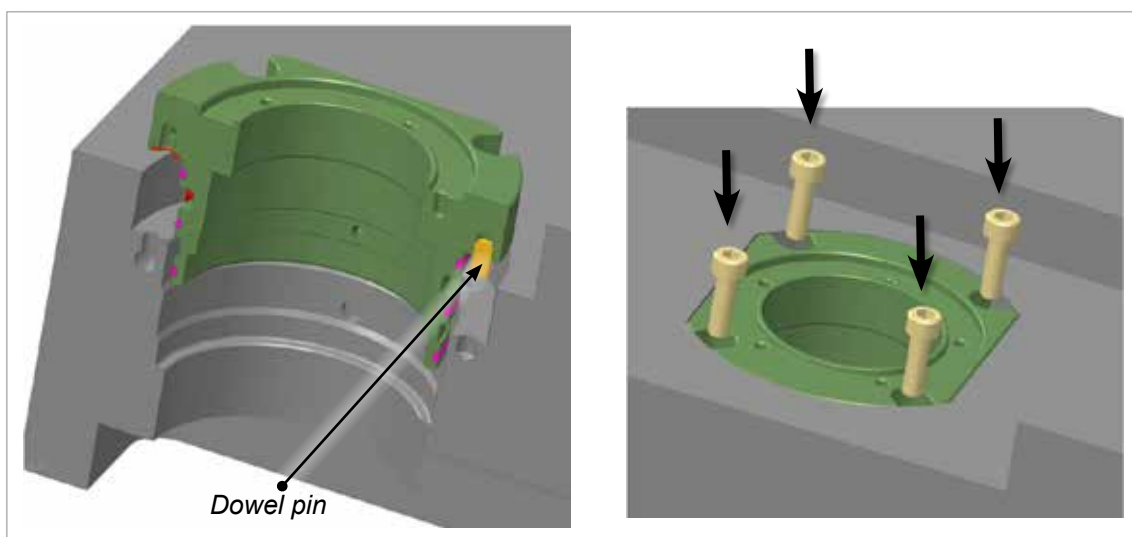

Figure 11-20 Attach outer body to manifold plate.
Ensure the outer body dowel pin is on the dowel hole side of manifold plate and the O-ring is in place on the outer body. See Figure 11-20.
1. Attach the outer body to the manifold plate using socket head cap screws. Torque to 15 Nm (11 ft-lb). See Figure 11-20.